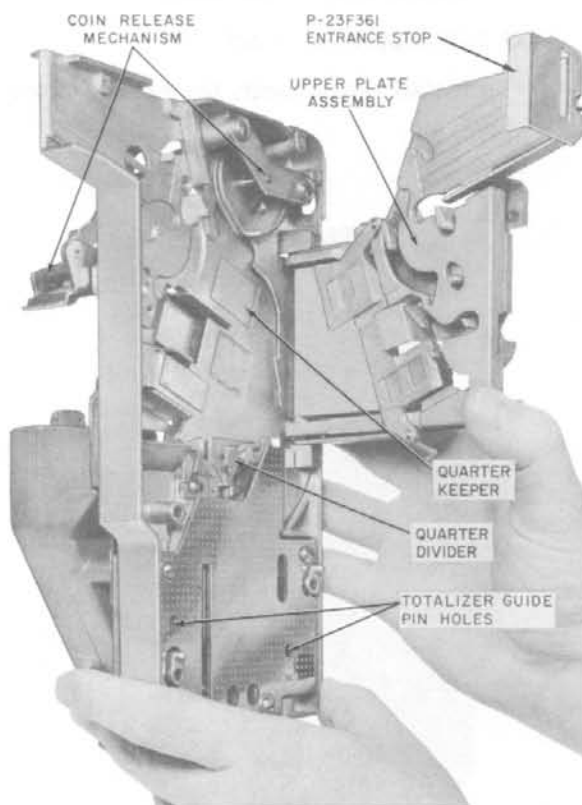

Fig. 22 — Chute
(1) Operate coin release lever in attempt to clear coins in return chute.
(2) If trouble does not clear:
- Swing upper plate assembly open (Fig. 22)